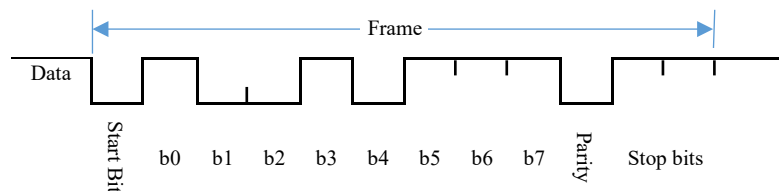

Figure 2 - Asynchronous Data
- Asynchronous transfer does not require a clock signal. However, it transfers extra bits (Start and stop bits) during data communication as seen in Figure 2. LSB is transferred first at a given bit rate (BAUD rate = number of times signal changes state per second)